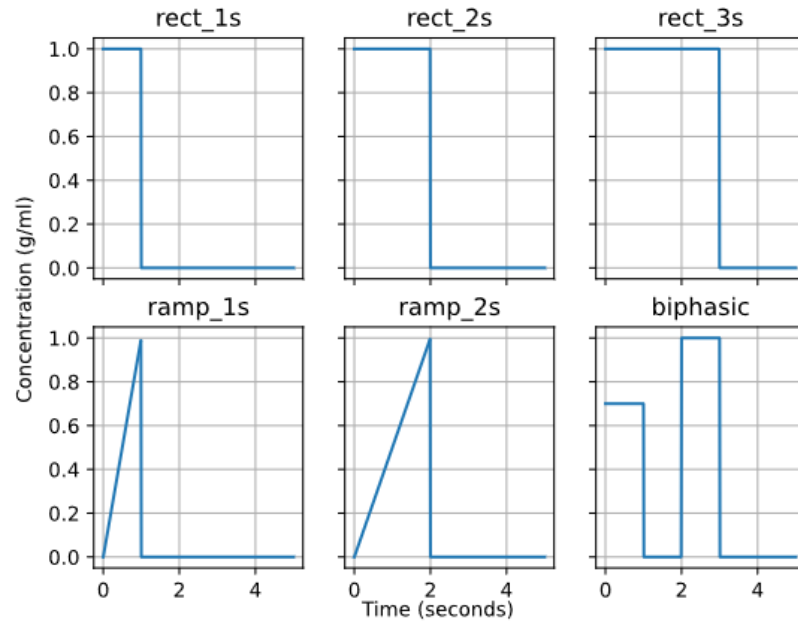

Figure 5: The different injection protocols used for the CFD simulations.
1. Make Python functions that reproduces *at least* three other injection protocol than `rect_1s` (i.e. minimum four in total) from figure 5, as an inspiration you can use the code below for the `rect_1s`
- Choose *at least* three other injection protocol than `rect_1s` from figure 5, use the model you ended up with in part 3 to predict what will happen.